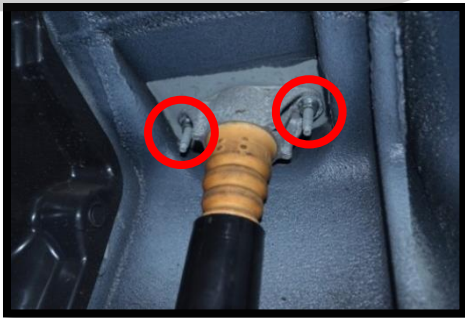

Figure 3b
- c) Remove the two (2) 12mm nuts that hold the shock up in the fender well and remove the shock from the car (Figure 3b).